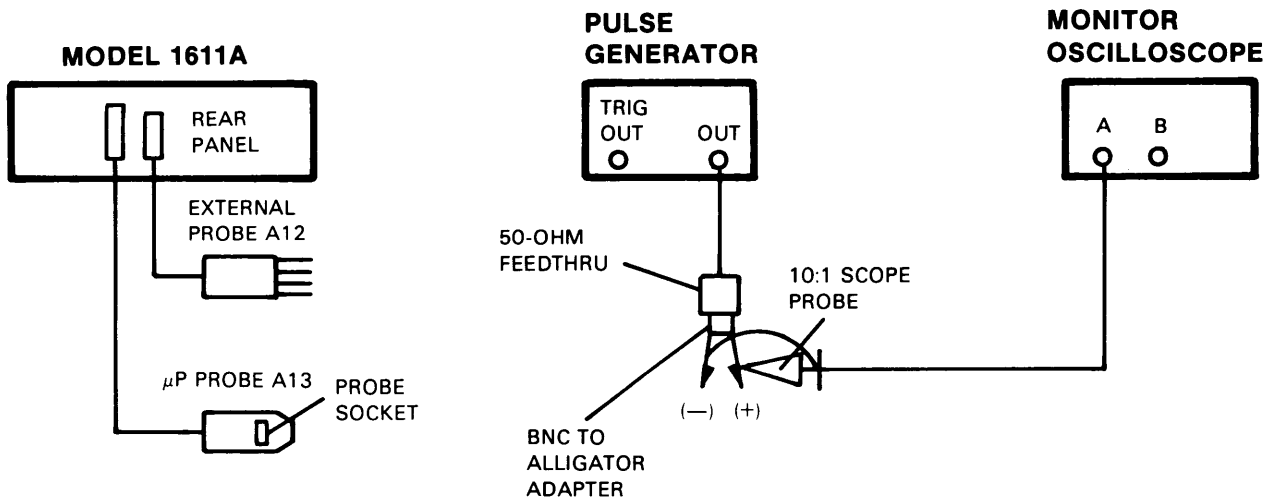

Figure 4-2. \overline{RD} , \overline{WR} , \overline{IORQ} Test Setup.
- Connect test equipment as shown in figure 4-2.